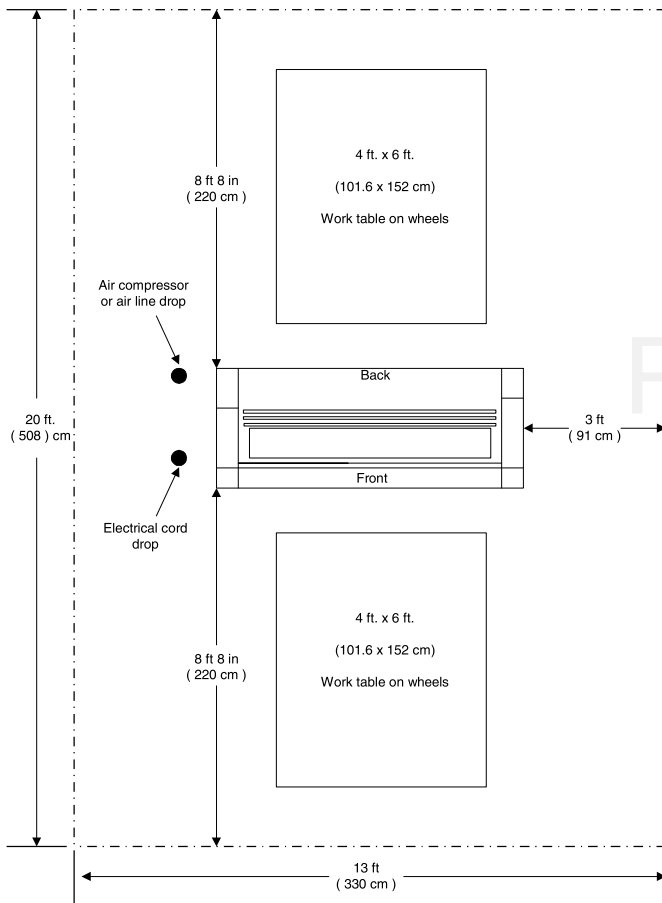

Fig. 2
- A work area must be established that allows for operation in both the front and rear of the laminator and provides space for efficient material flow. (Figure 2).